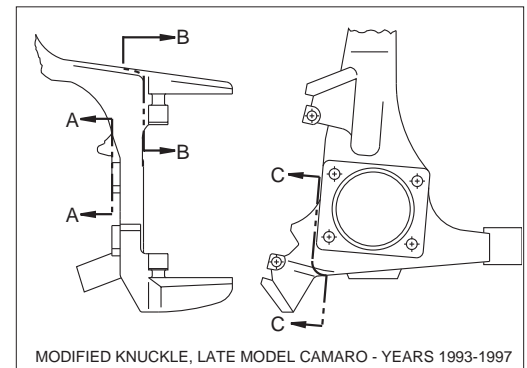

Figure 2. Knuckle Modifications
- Some modifications are required to the stock steering arm/spindle (figure 2, page 3). This entails cutting the mounting ears and on some model years cutting away portions of the spindle support to facilitate the mounting of the Wilwood spindle bracket. It is recommended that these modifications be performed by a qualified machine shop.
- Make sure this is the correct kit to match the exact make and model year of the vehicle's spindle (i.e., brackets for a 1990 Camaro spindle will not fit a 1997 Camaro spindle). On some models of disc brake spindles there are "ears" where the OEM calipers were mounted and these "ears" interfere with the assembly of the Wilwood disc brake kit. See Figure 2 for spindle modification instructions.
- The following knuckle modifications should be performed by a qualified machinist. Refer to Figure 2. Only one view of the steering arm/knuckle is shown, but the modifications need to be performed on both sides.